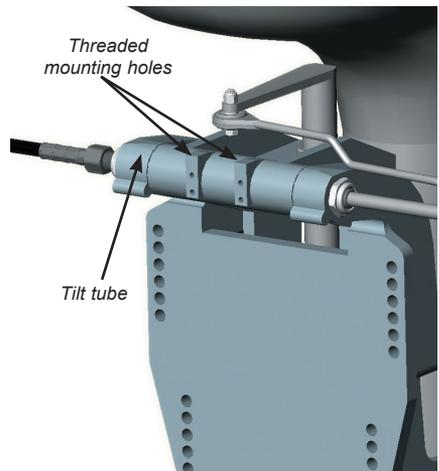

Fig B4 - Threaded mounting holes on front face of tilt tube
- iii) There are four threaded holes on the front face of the tilt tube (Fig B4), ensure that these are free from paint etc - retap if necessary: